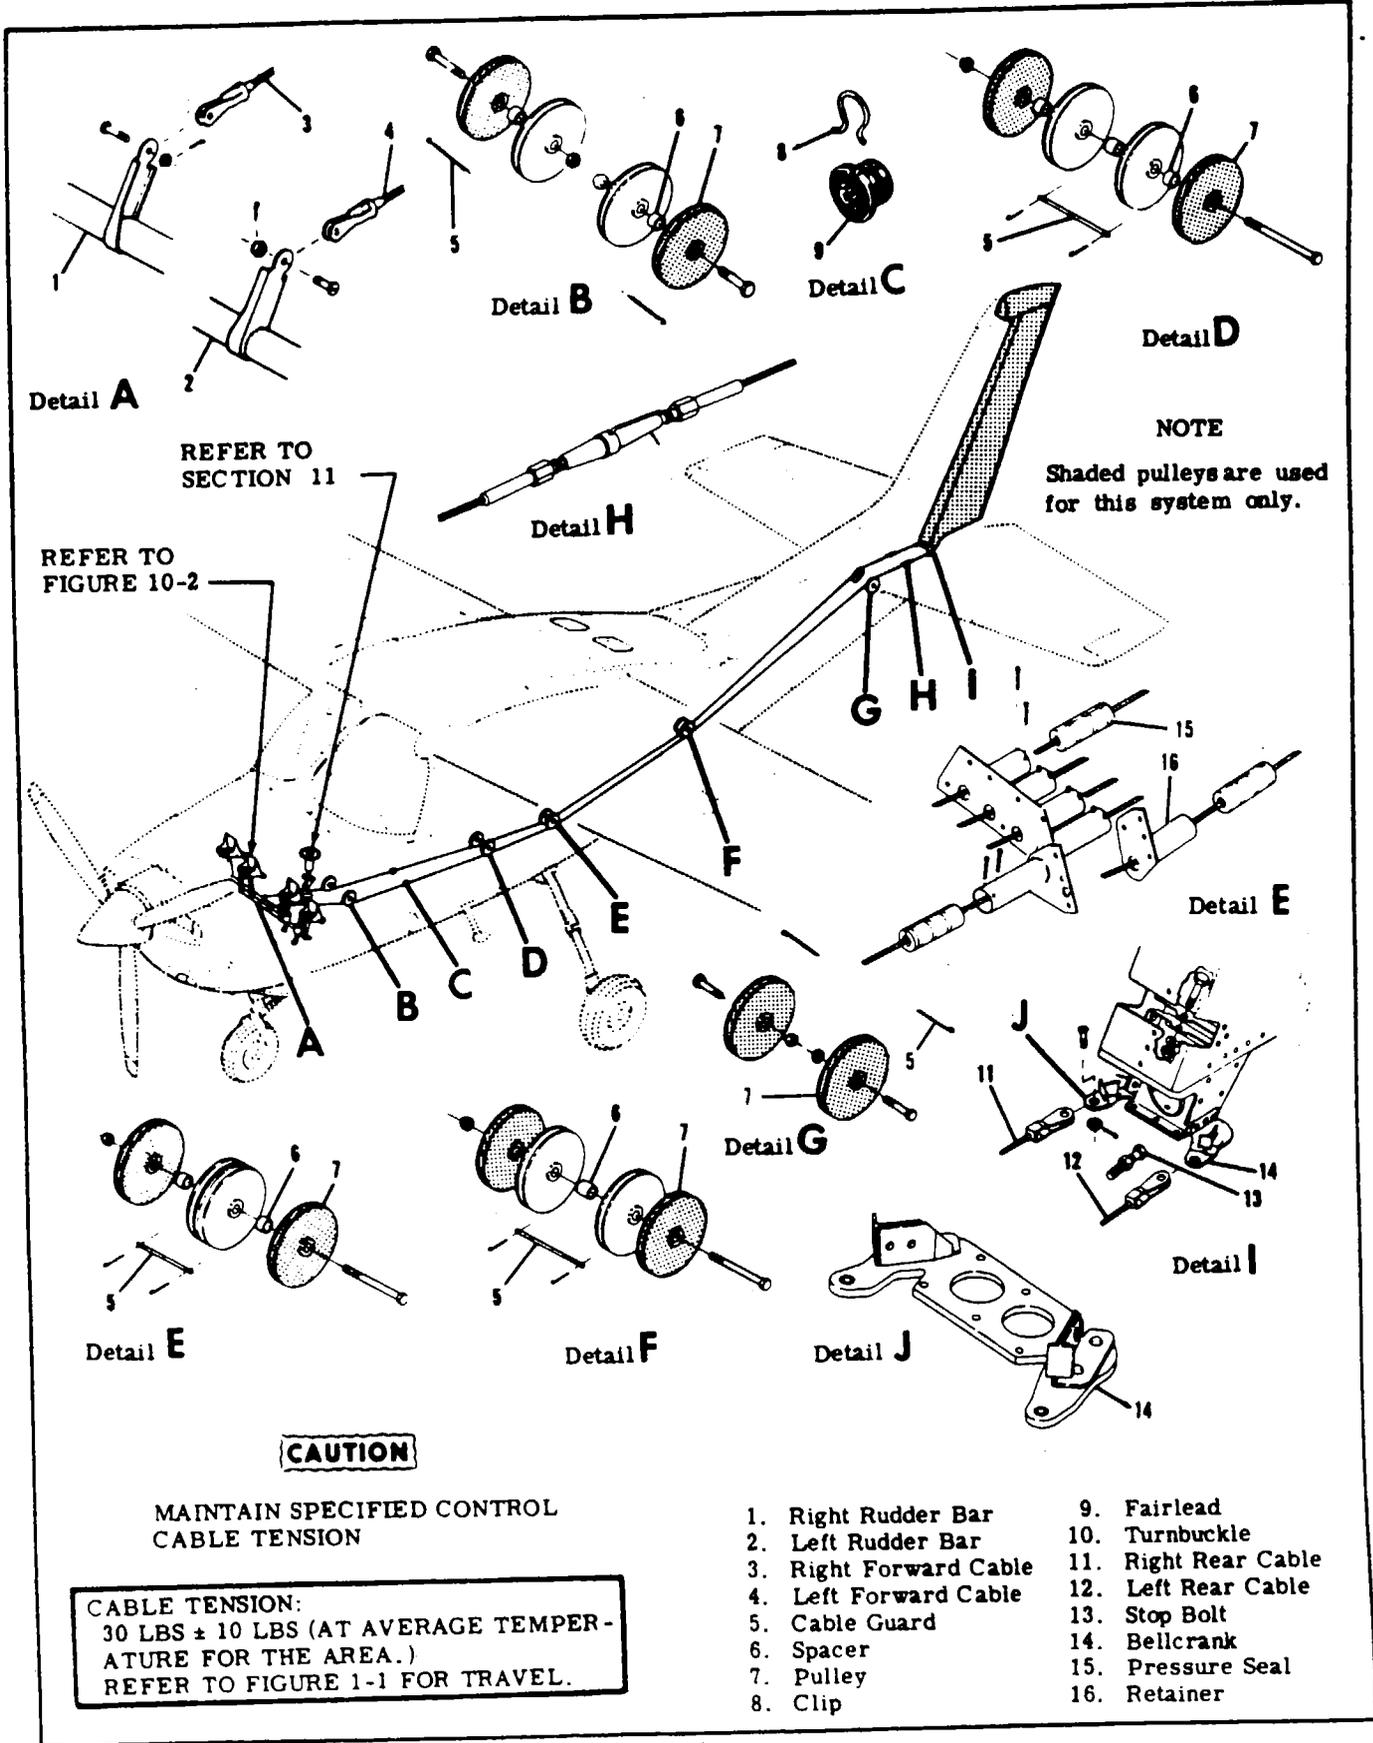
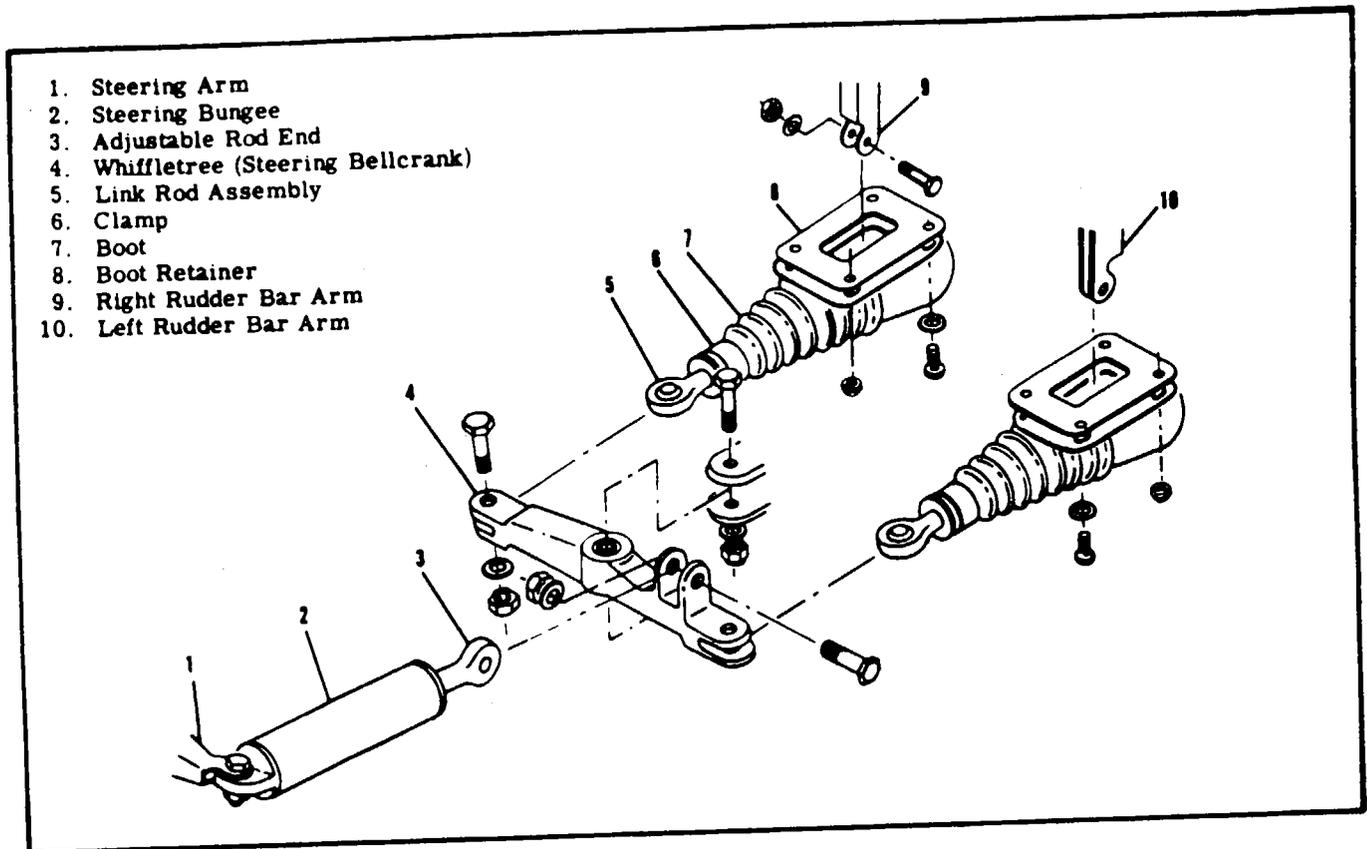

Figure 10-1. Rudder Control System
Figure 10-3. Nose Gear Steering Installation
10-1. RUDDER CONTROL SYSTEM. (Refer to figure 10-1.)
- b. Disconnect brake master cylinders (18) and parking brake cables at pilot's rudder pedals.
- c. Remove rudder pedals (2) and brake links (5).
- e. Remove fairing from either side of vertical fin, remove safety wire and relieve cable tension by loosening turnbuckles (index 10, figure 10-1).
- g. Disconnect rudder trim bungee from rudder bar arm (16).
- h. (Refer to figure 10-3.) Disconnect whiffletree link rod assemblies (5) at rudder bar arms (9 and 10).
- c. Remove fairing from either side of vertical fin, remove turnbuckles (index 10, figure 10-1.)
- d. Disconnect cables (4 and 6) from rudder bellcrank (3).
- e. With rudder supported, remove all hinge bolts (2) and using care, lift rudder free of vertical fin.
10-9. CABLES AND PULLEYS. (Refer to figure 10-1.)
- a. Remove fairing from either side of vertical fin, remove safety wire and relieve cable tension at turnbuckles (index 10, figure 10-1).
- e. (Refer to figure 10-3.) Disconnect steering bungee adjustable rod end (3) from whiffletree (4).
- j. Adjust turnbuckles (index 10, figure 10-1) to streamline rudder with 30 ± 10 lbs tension on cables.
- l. Adjust travel stop bolts (index 13, figure 10-1) to obtain degree of travel specified in figure 1-1. Figure 10-5 illustrates correct travel and one method of checking.
- m. Adjust length of rod end (3) to align with whiffletree (4) and install bolt. DO NOT PRELOAD BUNGEE.